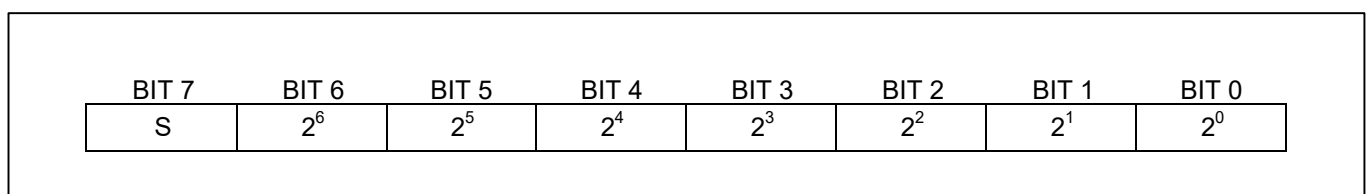

Figure 3.  $T_H$  and  $T_L$  Register Format
After the DS18B20 performs a temperature conversion, the temperature value is compared to the user defined two's complement alarm trigger values stored in the 1-byte  $T_H$  and  $T_L$  registers (see Figure 3). The sign bit (S) indicates if the value is positive or negative: for positive numbers  $S = 0$  and for negative numbers  $S = 1$ . The  $T_H$  and  $T_L$  registers are nonvolatile (EEPROM) so they will retain data when the device is powered down.  $T_H$  and  $T_L$  can be accessed through bytes 2 and 3 of the scratchpad as explained in the Memory section.